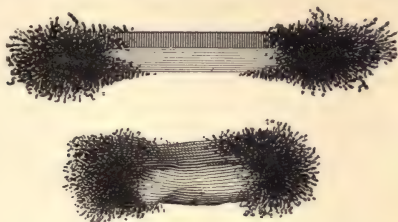

FIG. 9.
20. If a bar magnet is dipped into iron filings, the filings are attracted toward the two ends and adhere there in tufts, while toward the center of the bar, half way between the two ends, there is no such tendency. (See Fig. 9.) That part of the magnet where there is no apparent magnetic attraction is called the **neutral line**, and the parts around the two ends where the attraction is greatest are called **poles**. An imaginary line drawn through